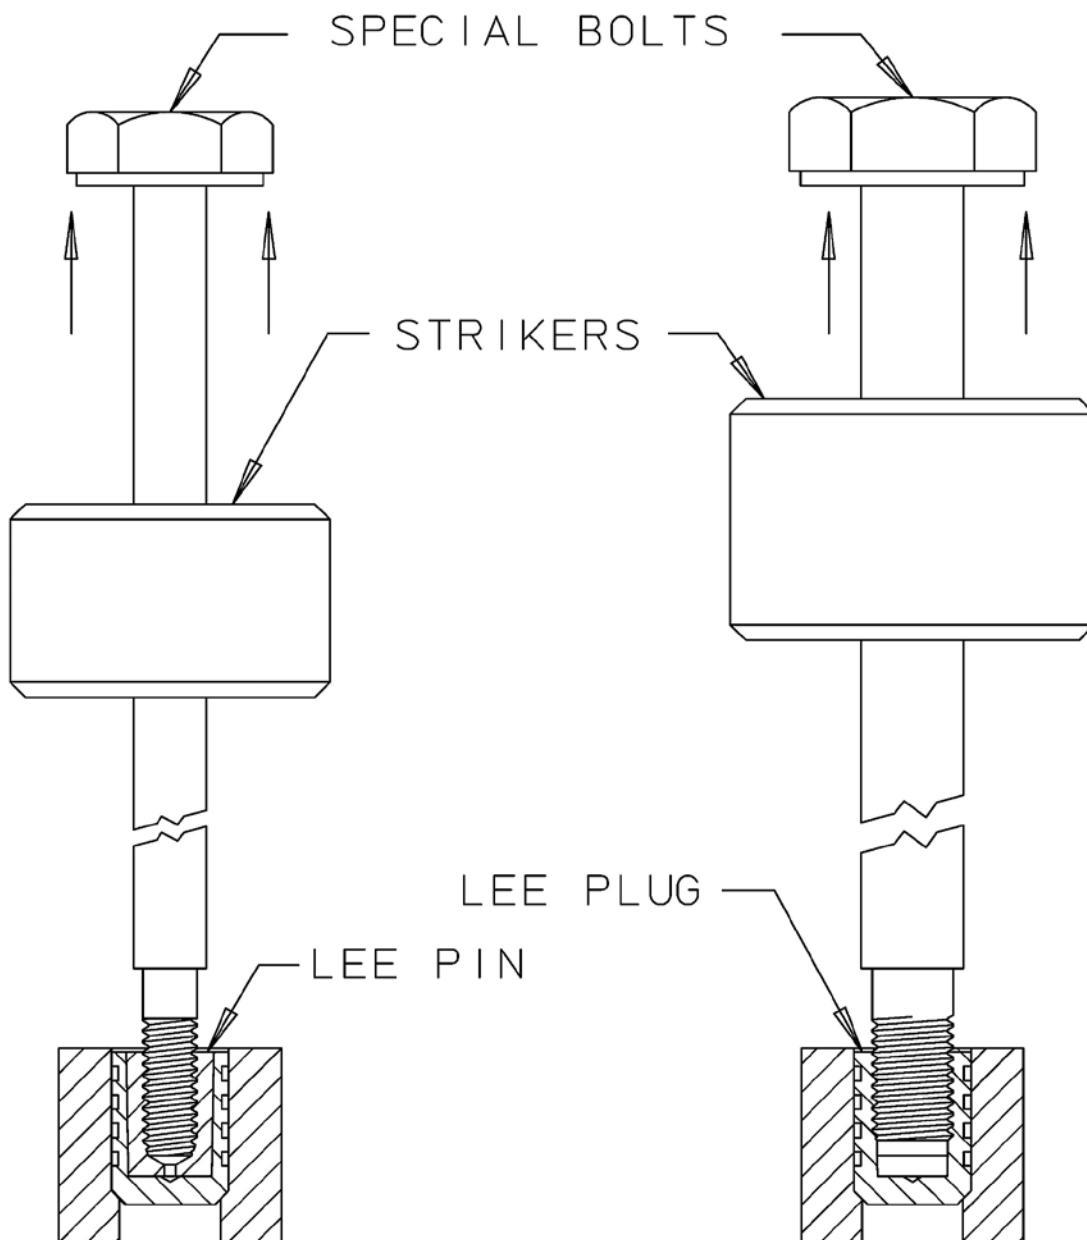

FIGURE 12
2. Remove the pin with the appropriate bolt and striker (see Figure 12 on Sheet 34, and Table 9 on Sheets 35-38, or Table 10 on Sheets 39-40).